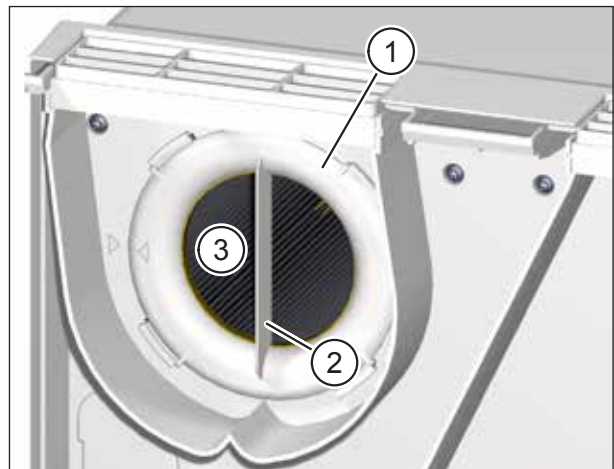

Fig. 19: Removing the extract air filter
- ▶ Turn the filter ring (item 1 in Fig. 19) using the hand grip (item 2 in Fig. 19) anti-clockwise until the filter ring is released from the retainers.
- ▶ Pull the filter ring together with the extract air filter (item 3 in Fig. 19) out of the ventilation unit.
- ▶ Check the position of the filter ring. The hand grip must be vertical and the arrow on the filter ring must line up with the arrow for the locking position (see Fig. 19 on page 37).